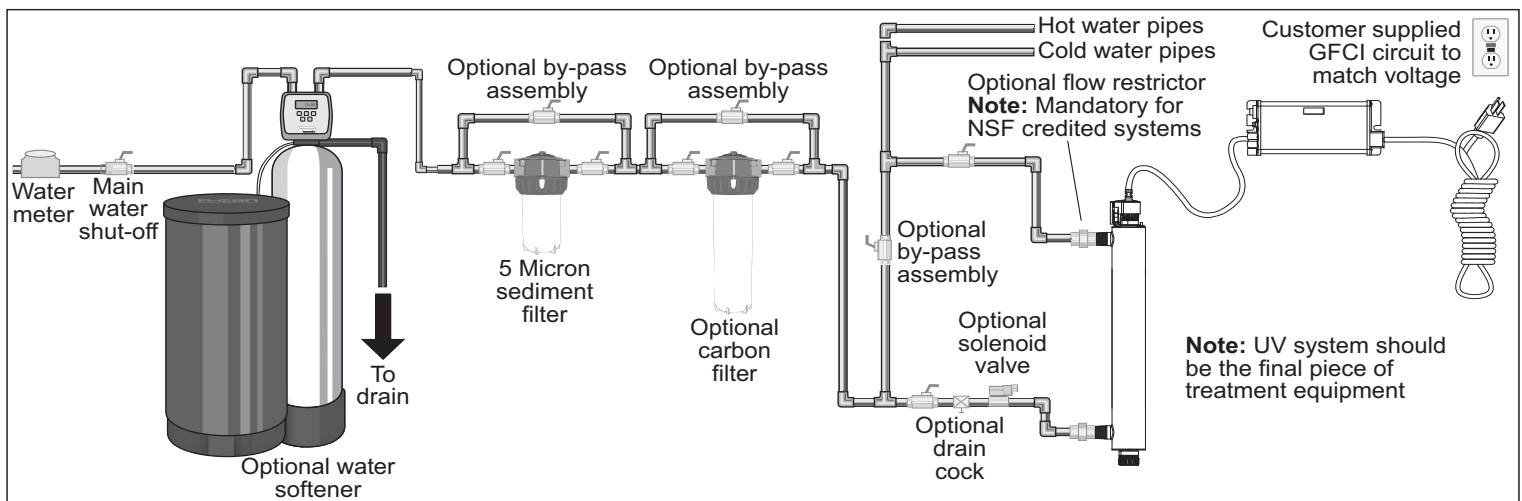

Figure 2 Disinfection System
1. Figure 2 shows the installation of a typical disinfection system and the related components that may be used for the installation. The use of a by-pass assembly is recommended in case the system requires “off-line” maintenance. In this case, note the system requires supplementary disinfection for the distribution system if any water is used during by-pass condition. In addition, during by-pass, the water will NOT be disinfected and a “DO NOT CONSUME THE WATER” tag should be physically installed on the by-pass assembly until such time as the system is sanitized and returned to service. For more information, refer to Section 3.2. If the water is to be consumed while the system is off-line, the water must be boiled for two minutes prior to consumption.